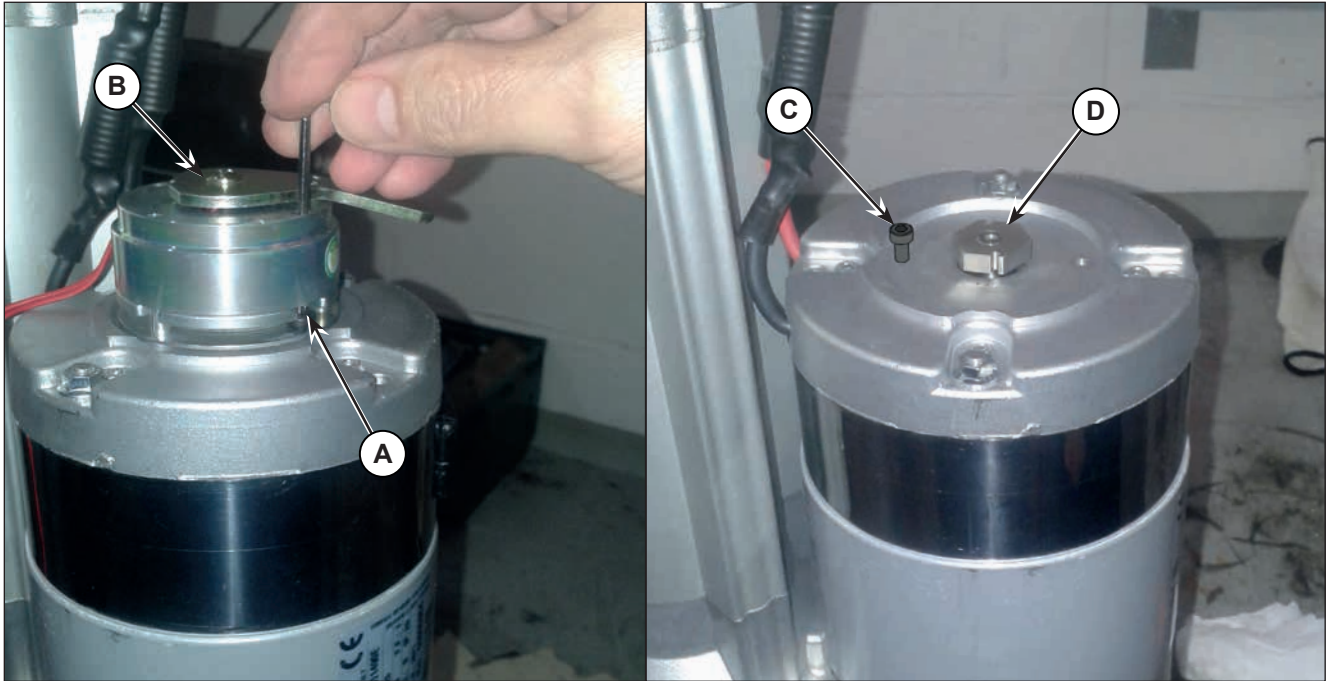

Figure 9:
3. Remove the two screws (A, Figure 9) and the electromagnetic brake (B).